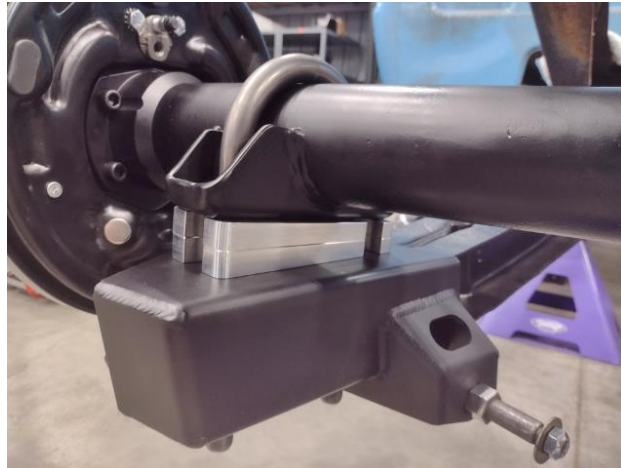

Figure 10 - Tighten U-Bolts
15. Tighten the U-bolts evenly on both sides of the truck (Figure 10). **NOTE:** The images below show the Detroit Speed Anti-Squat Kit with pinon angle spacers (PN: 040119DS).